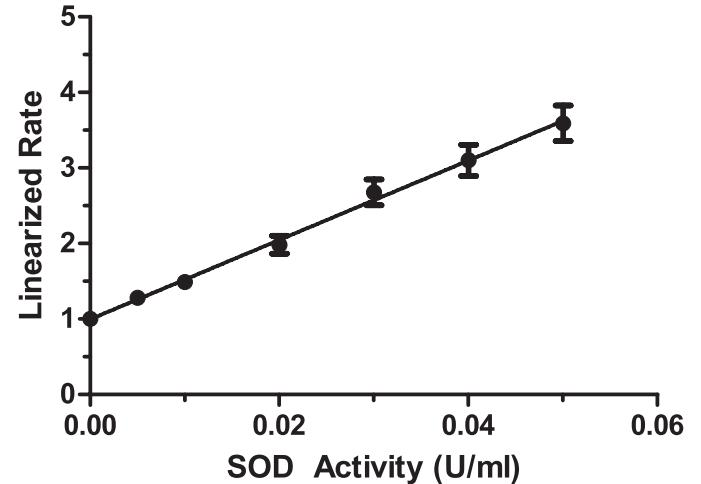

Figure 3. Superoxide Dismutase standard curve
2. Divide standard A's absorbance by itself and divide standard A's absorbance by all the other standards and samples absorbances to yield the linearized rate (LR) (i.e., LR for Std A = Abs Std A/Abs Std A; LR for Std B = Abs Std A/Abs Std B).
3. Plot the linearized SOD standard rate (LR) (from step 2 above) as a function of final SOD Activity (U/ml) from Table 1. See Figure 3 (on page 19) for a typical standard curve.
4. Calculate the SOD activity of the samples using the equation obtained from the linear regression of the standard curve substituting the linearized rate (LR) for each sample. One unit is defined as the amount of enzyme needed to exhibit 50% dismutation of the superoxide radical. SOD activity is standardized using the cytochrome c and xanthine oxidase coupled assay.